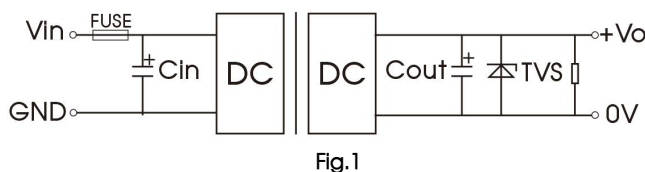

Fig.1
- (1) We recommended using the recommended circuit shown in Fig.1 during product testing and application, otherwise please ensure that at least a 220 μ F electrolytic capacitors is connected at the input in order to ensure adequate voltage surge suppression and protection.
- (2) We recommended increasing the value of Cin and pay attention to the unstable input voltage if the product input side is paralleled with motor drive circuit and/or larger energy transient circuits, to ensure the stability of input terminal and avoid repeatedly start-up problems due to input voltage lower than under-voltage protection point.
- (3) We recommended increasing the output capacitance with limited to the capacitive load specification and/or increasing the voltage clamping circuit(such as TVS) if the output terminal is inductive device such as relay or a motor, to ensure adequate voltage surge suppression and protection.
- (4) Input and/or output ripple can be further reduced by appropriately increasing the input & output capacitor values Cin and Cout and/or by selecting capacitors with a low ESR (equivalent series resistance). Also make sure that the capacitance is not exceeding the specified max. capacitive load value of the product.